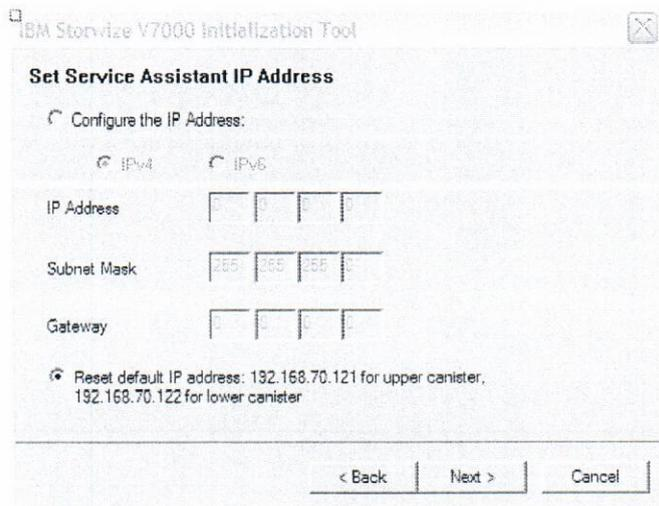

Figure 6 Set Service Assist IP Address window
7) The Set Service Assist IP Address window will appear (Figure 6)